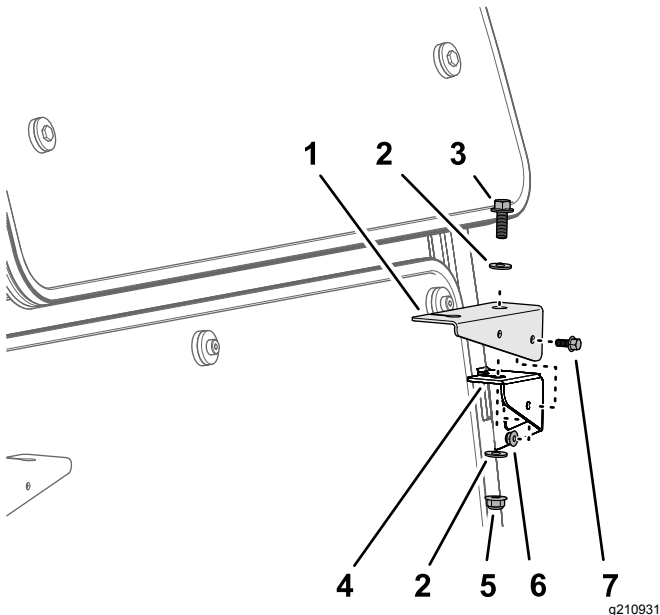

Figure 19
- 2. Assemble the light bracket to the headlight mount (Figure 19) with a flange-head bolt (3/8 x 1 inch), 2 washers (3/8 inch), a flange locknut (3/8 inch), a flange-head bolt (1/4 x 5/8 inch), and a flange locknut (1/4 inch).
- 1. Align the holes of the left light bracket with the holes of the left headlight mount as shown in Figure 19.